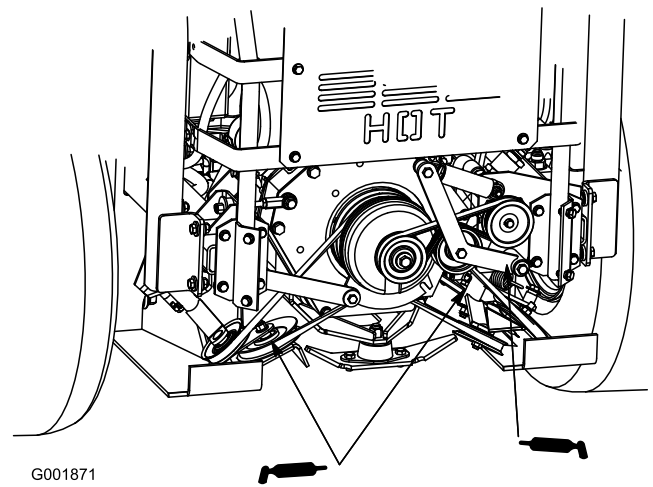

Figure 40
1. Grease the cooling fan belt idler arm (Figure 40).
2. Grease the drive belt idler arms (Figure 40).